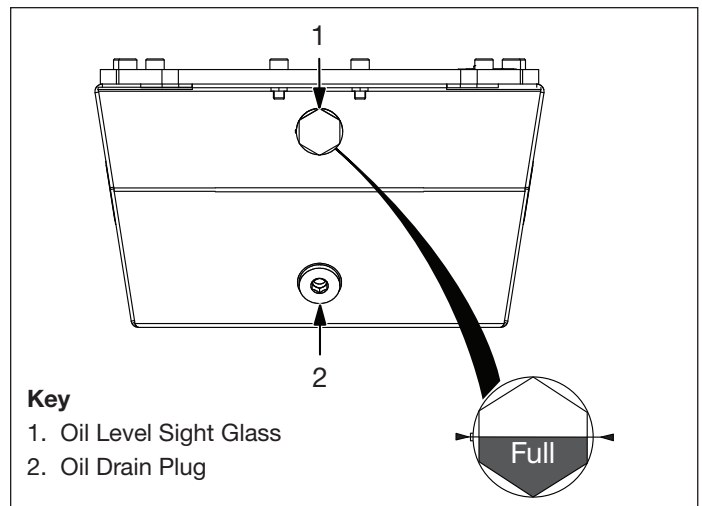

Figure 8, Sight Glass and Drain Plug
2. Verify that the pressure gauge indicates zero (0) psi/bar. Be certain that all hydraulic pressure is fully relieved before continuing this procedure. If any pressure remains, then relieve pressure as described in Section 9.2.
5. Visually check the oil level by looking through the oil level sight glass. Reservoir is FULL when oil level is about halfway between the top and bottom of the sight glass. Refer to Figure 8.
5. Place a suitable pan or container of appropriate capacity under the hydraulic reservoir drain plug. Refer to Figure 8.